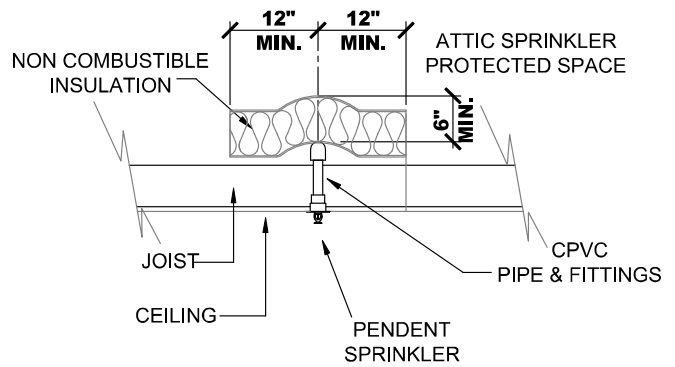

FIGURE 36A
- Pipe Running on Top of Bottom Chords: There must be 6 in. (152.4 mm) of non-combustible insulation covering the horizontal or vertical pipe extending 12 in. (304.8 mm) on each side away from the centerline of the pipe. Refer to Figure 36A.